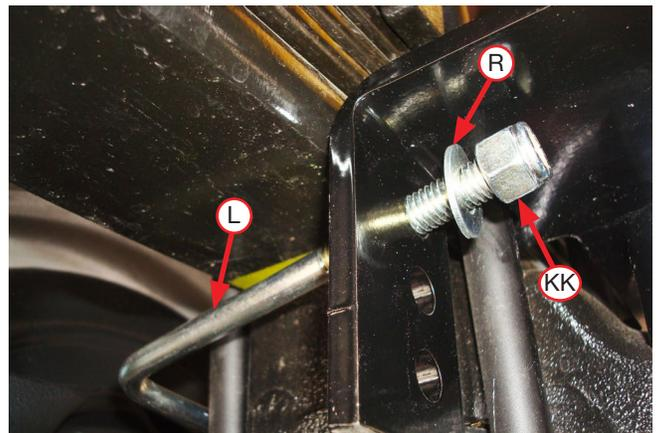

Fig. 35
3. Install the U-bolt (L) around the stock U-bolt/leaf spring assembly and insert through the topmost holes in the lower bracket main plates (Fig. 35). Cap with 3/8" flat washer (R) and 3/8" nylon lock nuts (KK). Snug bolts evenly, just enough to hold the lower bracket main plate flush against the stock U-bolts.